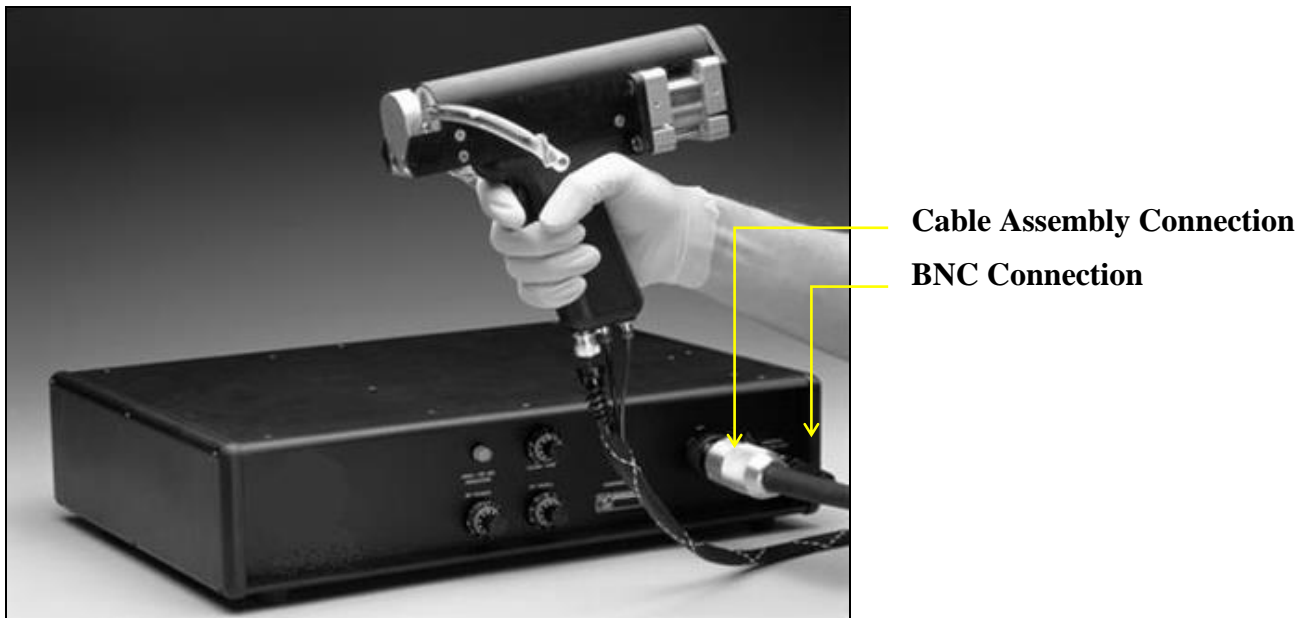

Figure 2.1 Interface Connections
- 2.1.3 Connect the Sealer to the RF Generator using the supplied cable assembly. Connect the cable assembly to a dry compressed air supply (40 PSI (2.8 kg/cm²) minimum, 120 PSI (8.44 kg/cm²) maximum, 80-100 PSI (4.2 kg/cm²) recommended). See Figure 2.1 for connection illustrations.